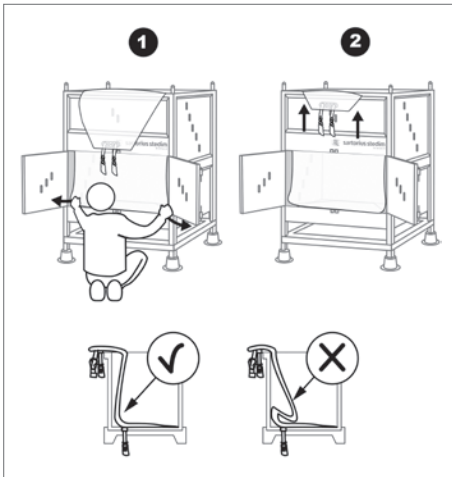

Fig. 12
14. Ensure that the corners of the bag are in contact with the front corners of the Palletank® so that the bag will take the shape of the Palletank®. Position then the 4-Port system in contact with the side of the Palletank® (see Fig. 12).
- ▷ If possible given the volume in the bag, spin the bag 180° around the bottom gates and close the bottom gates. Examine Fig. 12 & 13 for proper bag positioning. It is critical that the bottom seam of the bag is along the centerline of the Palletank® for proper deployment.